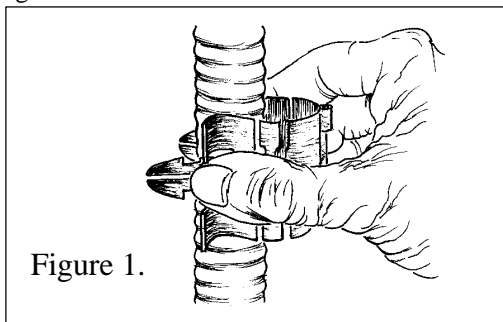

Figure 1.
2. Slide the cable clamp over the jacketed cable. Do not open the clamp wider than is necessary for assembly. See Figure 1.